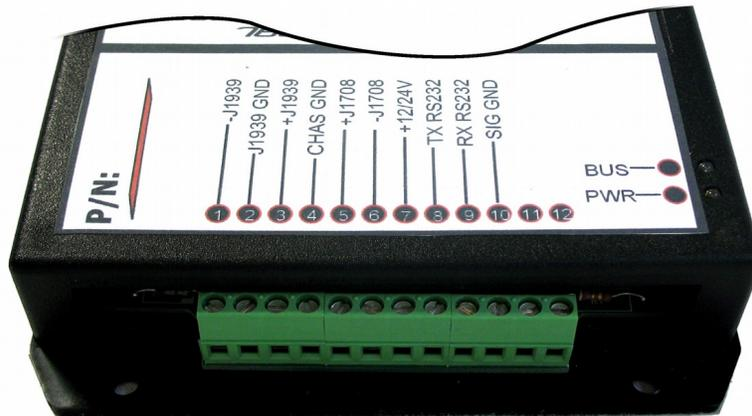

Figure 1: TMT7839 Terminal Strip
1. The terminal strip connections are numbered from 1 to 12, from the leftmost terminal to the rightmost terminal (see Figure 1).